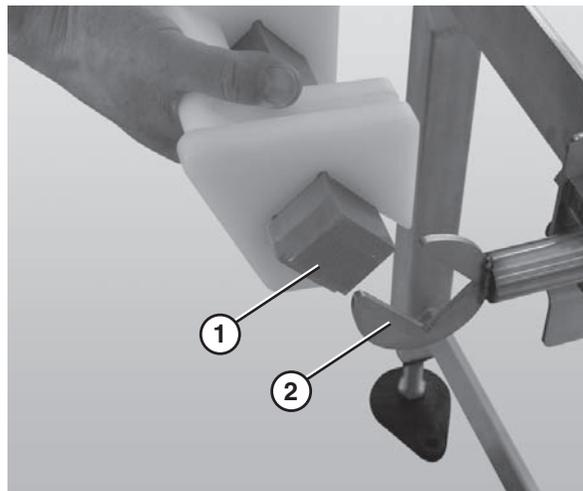

Figure 30
4. Attach the nose bar transfer post (**Figure 30, item 1**) to the nose bar idler shaft hands (**Figure 30, item 2**).